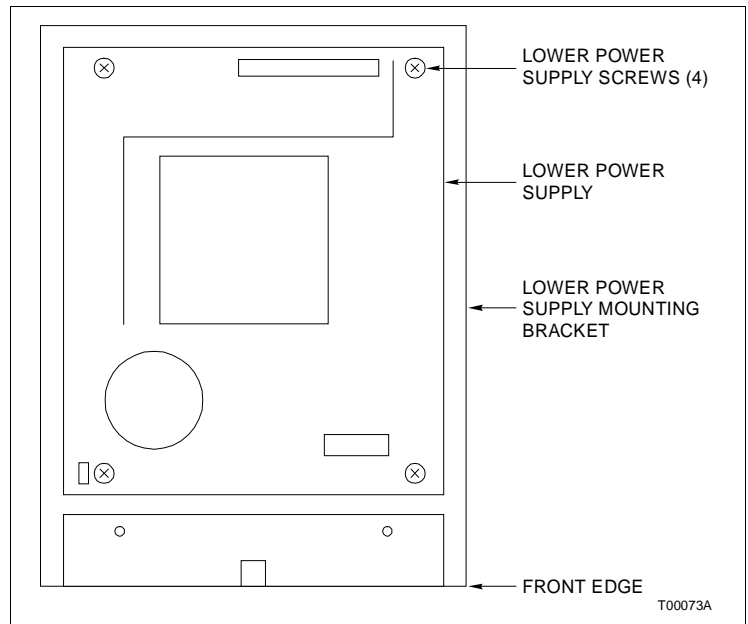

Figure PR62-3. Lower Power Supply Replacement
- 7. Use the Phillips head screwdriver to remove the four lower power supply screws that secure the lower power supply to the lower power supply mounting bracket (Fig. PR62-3).